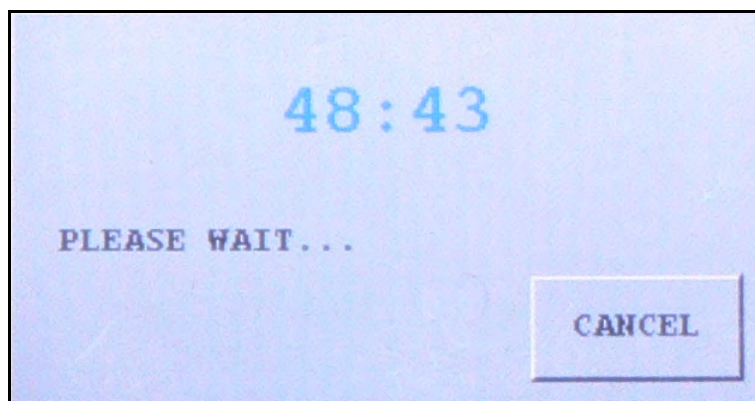

Figure 2-1 Helium Background Timer
- ❑ Background is changing, indicating the system is still pumping away background helium, a countdown timer appears (Figure 2-1). The VS system monitors the helium background and shows the time until the calibration begins. Should you prefer not to wait, a *Cancel* button permits the calibration request to be canceled.